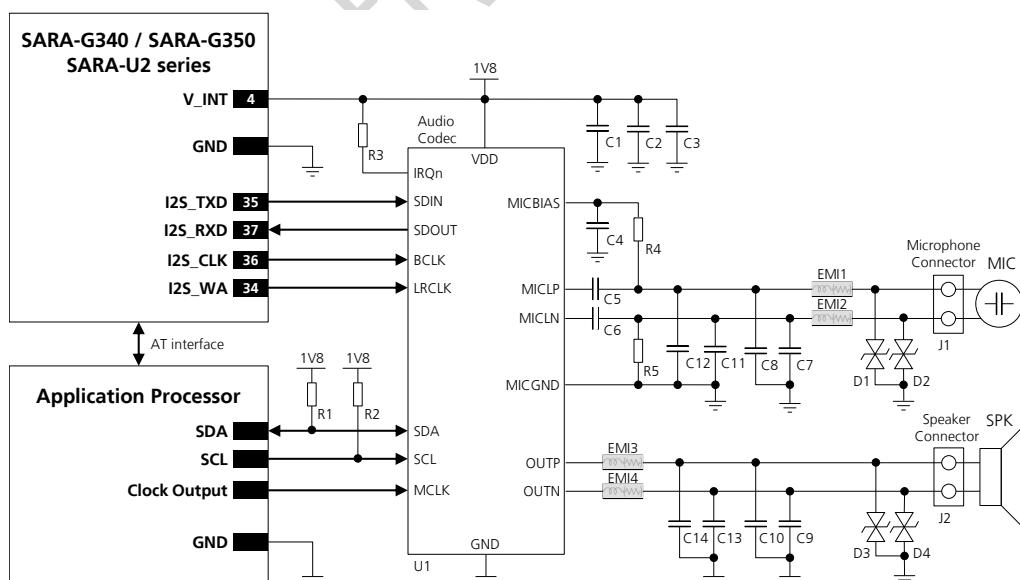

Figure 79: Application circuit for connecting SARA-G3 / SARA-U2 modules with an external audio codec
Figure 79 describes an application circuit for connecting the I2S digital audio interface of the SARA-G340, SARA-G350 and SARA-U2 modules to an external audio voice codec, using the same parts listed in Table 44.
- Additional components are provided for EMC and ESD immunity conformity: a 10 nF bypass capacitor and a series chip ferrite bead noise/EMI suppression filter provided on each microphone line input and speaker line output of the external codec as described in Figure 79 and Table 44. The necessity of these or other additional parts for EMC improvement may depend on the specific application board design.